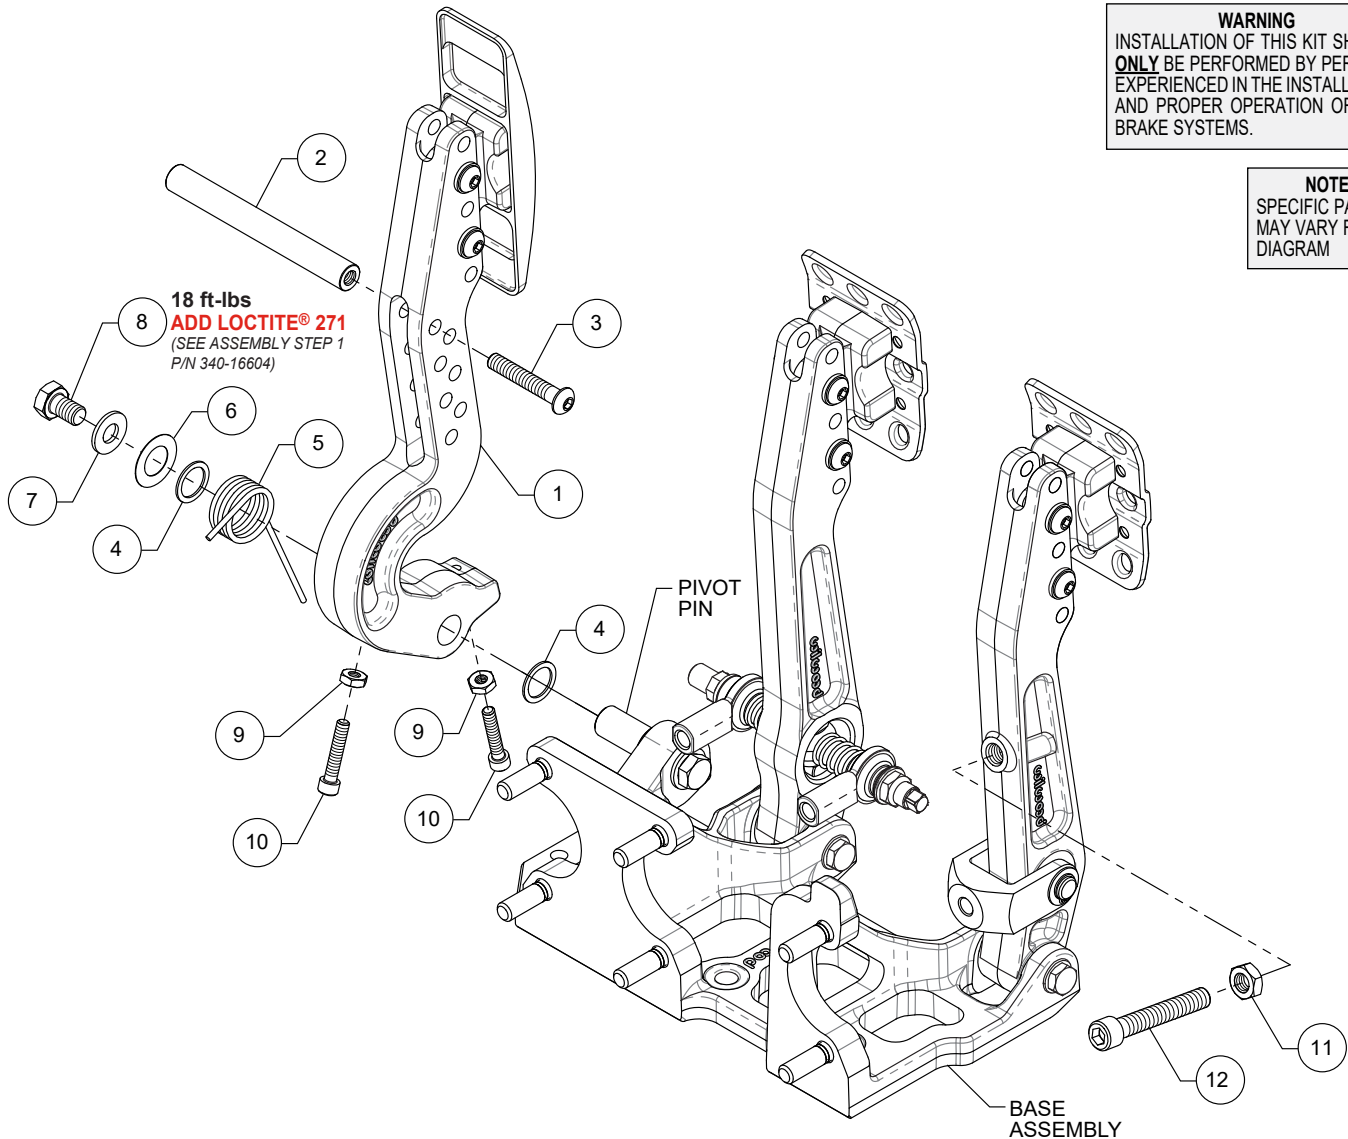

Figure 1. Throttle Pedal Assembly Configuration for Pedal Assembly p/n's 340-16604 and 340-16605
NOTE: Numbers in parenthesis refer to the parts list and Figure 1 on page 3.
STEP 1 Slide nylon shim (4) and then throttle pedal (1) onto pivot pin of base assembly. Install pedal return spring (5), then secure using nylon shim (4), wave washer (6), washer (7) and bolt (8), as shown in Figure 1. Apply red *Loctite*® 271 and torque to value shown in Figure 1.
STEP 2 Screw the throttle pedal stop bolts (10) into nuts (9) and then into the throttle pedal (1), front and rear. **NOTE:** Final adjustment of the stop bolts will be performed after pedal installation in vehicle.
STEP 3 Screw the clutch stop bolt (12) into nut (11) and then into the clutch pedal, as shown in Figure 1. **NOTE:** Final adjustment of stop bolt will be performed after pedal installation in vehicle.
STEP 4 **NOTE:** For rear engine installation only: Install the rear throttle pull rod (2) to the throttle pedal (1) using bolt (3).